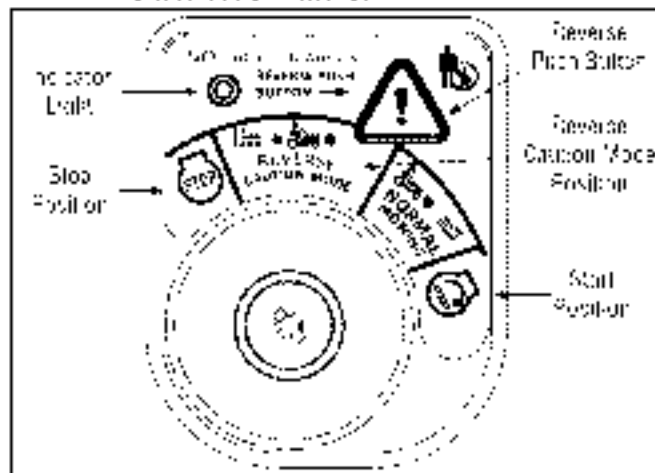

Figure 13
2. Turn the key from the **NORMAL MOWING** (Green) position to the **REVERSE CAUTION MODE** (Yellow) position of the key switch module. See Figure 13.
3. Depress the **REVERSE PUSH BUTTON** (Orange Triangular Button) at the top, right corner of the key switch module. The red indicator light at the top, left corner of the key switch module will be **ON** while activated. See Figure 13.